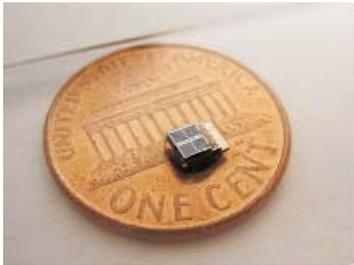

Fig. 2: A millimeter-sized solar energy harvesting sensor.
Advances in IC fabrication and packaging now permit wireless sensor packages – including processor, sensor, network device and power source, like the ones we'll be discussing shortly – as small as one cubic millimeter (1 mm³) in volume (Figure 2).
- Compatible with automated SMT and reflow soldering processes– as illustrated in Figure 2, below.